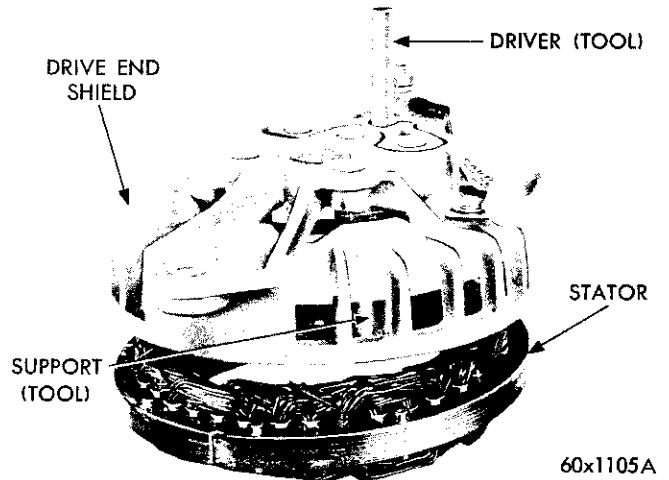
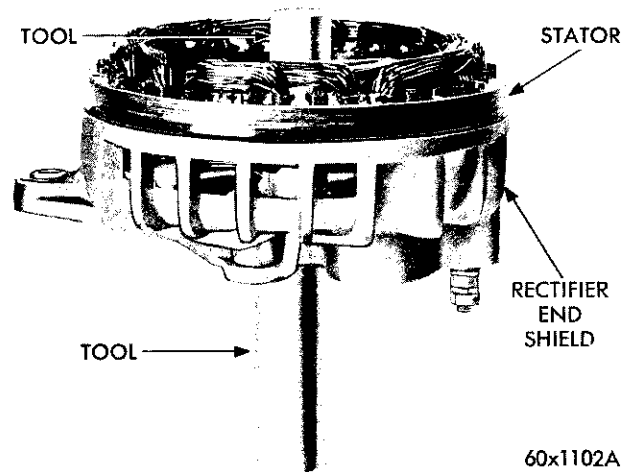

Fig. 40—Removing Rectifier
Fig. 41—Removing Rectifier End Shield Bearing
- (b) Support the rectifier shield on Tool C-3771. (See Fig. 40.)
**NOTE:** This tool is cut-away and slotted to fit over the wires and around the bosses in the shield. Make sure that the bore of the tool completely surrounds the rectifier, then press the rectifier out of the shield using Tool SP-3380 (Fig. 40). The needle roller bearing in the rectifier end shield is a press fit. To protect the end shield it is necessary to support the shield with Tool SP-3383 when pressing the bearing out with Tool C-3770 (Fig. 41).
- (1) Support the heat sink or rectifier end shield on circular plate Tool SP-3377.